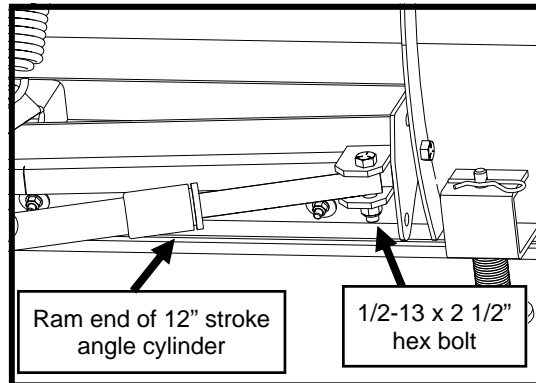

Fig. 5.3—Cylinder Ram End
**5.3** Attach the ram end (moveable end) of the angle cylinders between the brackets at the outer ends of the back side of the plow trip frame using 1/2-13 x 2 1/2" bolts. Fasten and tighten fully using 1/2-13 lock nuts. See Fig. 5.3.